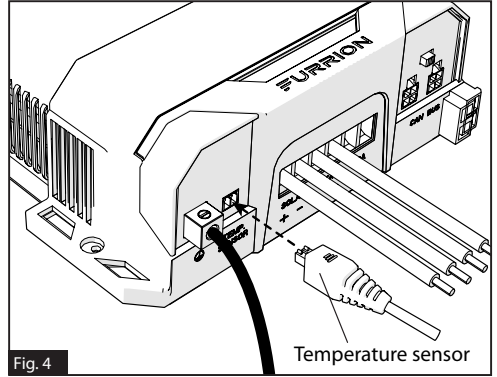

Fig. 4
- Plug the temperature sensor connector (P/N: C-FSCC60PW-A01, C-FSCC60PW-A02) to the temperature sensor port (if applicable). (Figure 4)